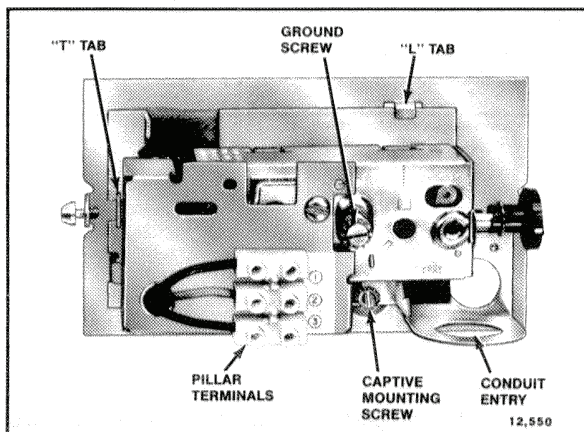
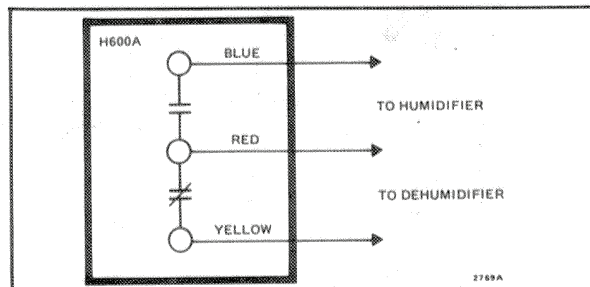

FIG. 2—COVER REMOVED.
FIG. 5—H600A WIRING DIAGRAM. CONNECT RED AND BLUE LEADWIRES TO HUMIDIFIER OR RED AND YELLOW LEADWIRES TO DEHUMIDIFIER.
2. Remove the backplate from the control assembly by loosening the captive mounting screw and sliding the control down and to the right (see Fig. 2,3).
4. Attach control to backplate by slipping it under tabs and tightening the captive mounting screw (see Fig. 2).
5. Connect wires as shown on Fig. 5.
Insert wiring through hole in back plate or through conduit entry (see Fig. 2). If conduit entry is not used, hole must be closed with the rubber plug provided. If the hole in the mounting plate is exposed to an opening in the wall, plug the opening to prevent drafts from affecting the humidistat operation. Connect wires as shown in Fig. 5.